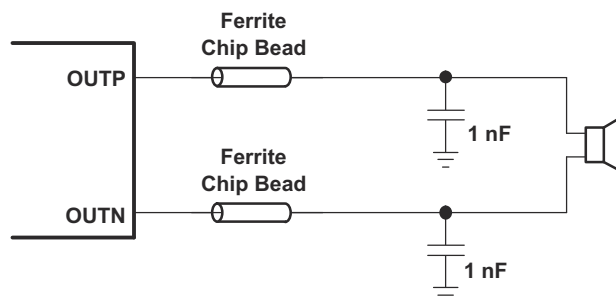

图 8-3. Typical Ferrite Chip Bead Filter (Chip Bead Example: NFZ2MSM series from Murata)
- Output filter—The ferrite EMI filter (图 8-3) should be placed as close to the output pins as possible for the best EMI performance. The capacitors used in the ferrite should be grounded to power ground.